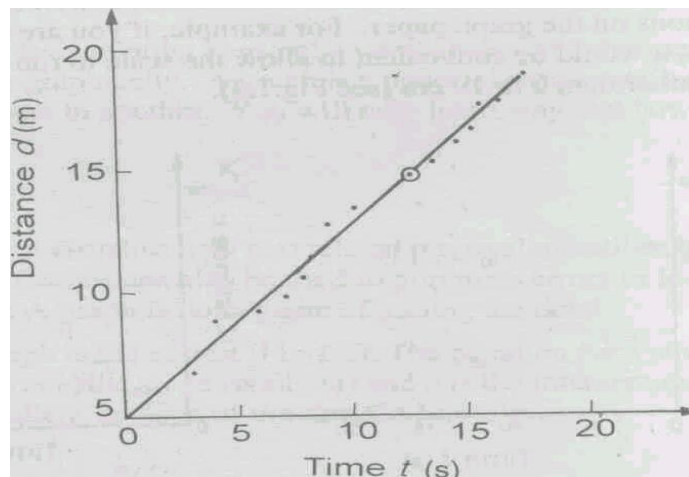

Fig. 1.5 A mean fit curve
- (vii) The curve drawn should be the simplest mean curve that fits the data. In the graph shown below (Fig. 1.5), it is easy to see this would be a straight line. Note that the line may not necessarily pass through each observed point. However, it should pass through the region of uncertainty for each point.